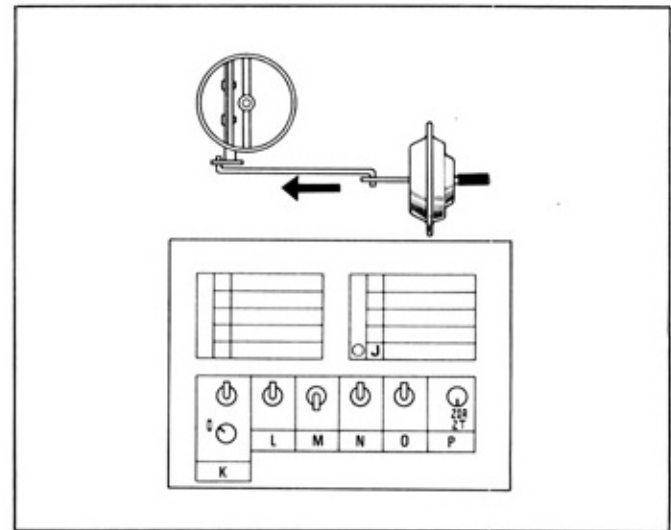

Fig. 18-13 Choke Opener Inspection (20R)
- When switch "M" is changed over to the "SIMULATION" side, light "J" should turn off and the link should return. (Fig. 18-13).